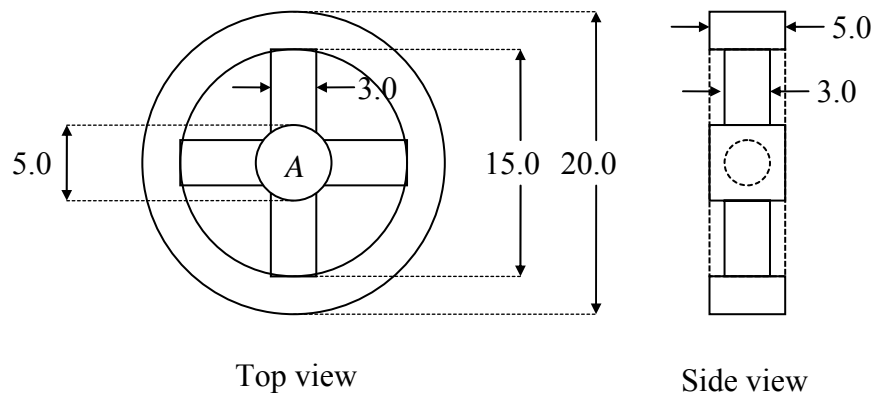

Figure 1: Valve control wheel for Question 1
- (a) A valve control wheel consists of a central cylindrical hub, four cylindrical spokes and an annular rim, as shown below in Figure 1. The wheel is to be cast from a eutectic alloy. Using Chvorinov's modulus technique, determine the solidification sequence of the wheel. All dimensions are in cm.